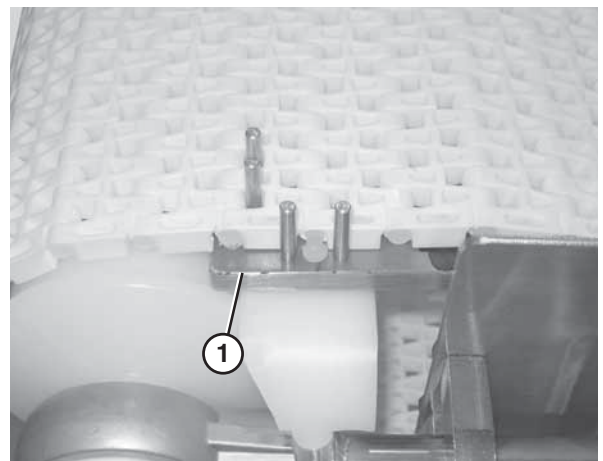

Figure 60
2. Secure the retaining head side of the belt using the belt removal tool (Figure 60, item 1).